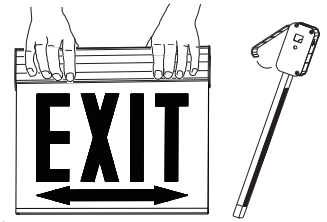

Figure 1
3. Open the housing cover (see Figure 1).